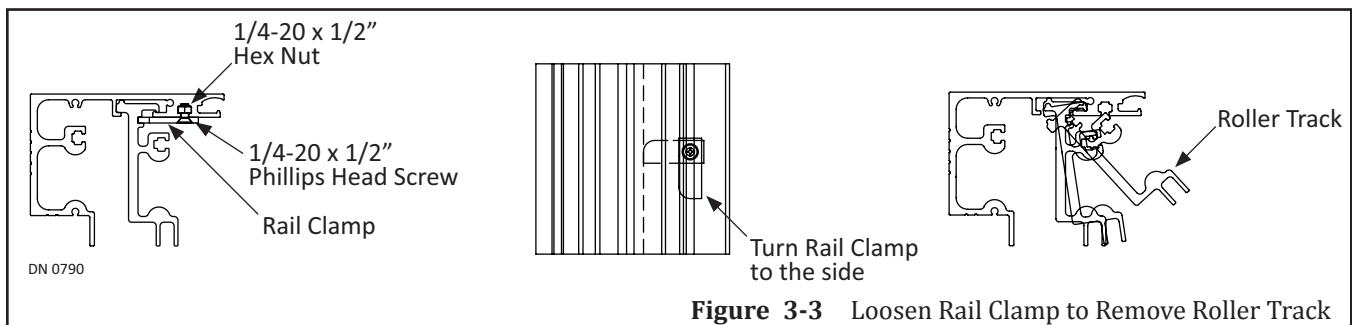

Figure 3-3 Loosen Rail Clamp to Remove Roller Track
1. Go to the Roller Track for the Lead door. With a #2 Phillips Screwdriver, loosen (1) 1/4-20 x 1/2 inch Phillips Head screw used to secure each Rail Clamp. Please see Figure 3-3.
- b. (3) Rail Clamps are typically used to secure the Roller Track to the Header. Locations will vary according to specifications.